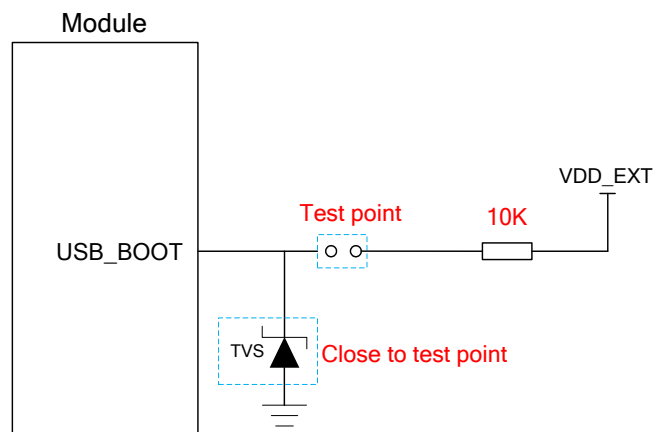

Figure 23: Reference Design of USB_BOOT Interface
3. When using MCU to control the module entering emergency download mode, follow the above timing sequence. Connecting the test points as shown in **Figure 23** can manually force the module to enter download mode.